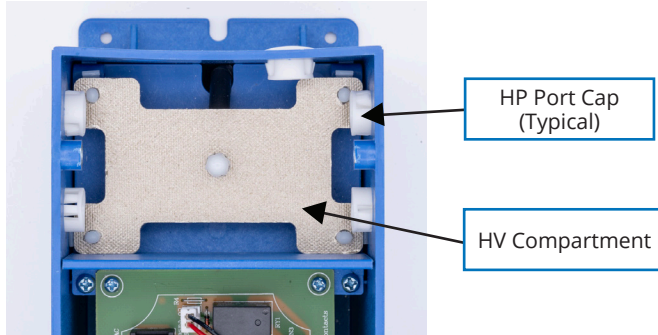

Figure 16
**Step 5** - The high voltage (HV) compartment has 6 HV ports. Refer to FIGURE 16. Based on the jobsite specific wiring route, access to the right, left or top side may be desired. Remove the plug from the port desired and fill the port not used with the spare plug. **DO NOT RUN HIGH VOLTAGE CABLES THROUGH THE CONTROL PORTS. DO NOT RUN CONTROL WIRING THROUGH HIGH VOLTAGE (HV) PORTS! REFER TO FIGURE 16.**